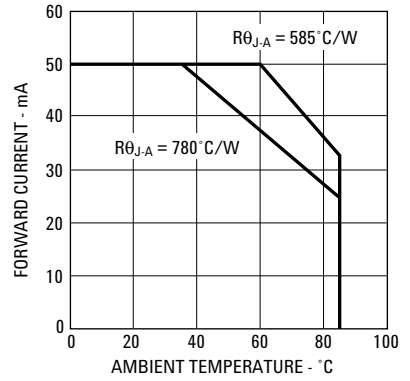
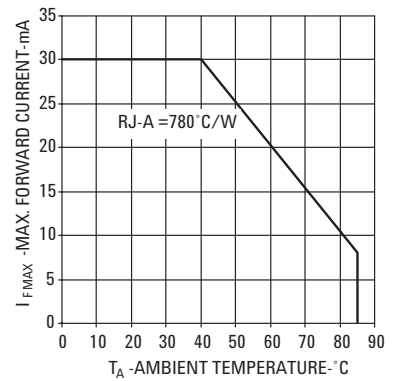

Figure 3. Forward current vs. ambient temperature
Figure 7. Forward Current vs. Ambient Temperature.
1. Derate linearly as shown in figure 3 and figure 7.